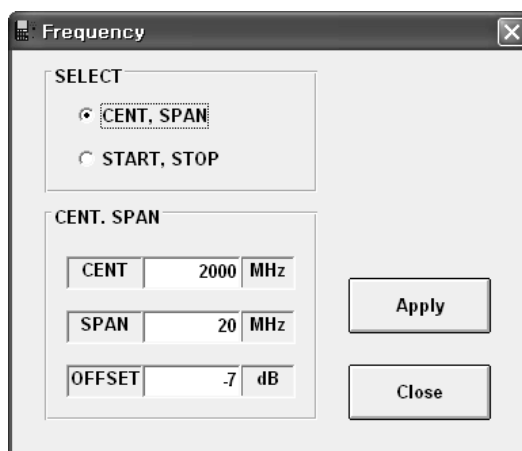

Figure 4.6. The window of set frequency
- 1) “Set Frequency” menu is that the user can easily fix the measuring frequency range and offset value. If the user selects this menu, the window of Set frequency is displayed as the Figure 4.6. Regarding more information, refer the article 3.2.5. Input the center frequency, 3.2.5. Input the span frequency and 3.2.6. Input the start and stop frequency.